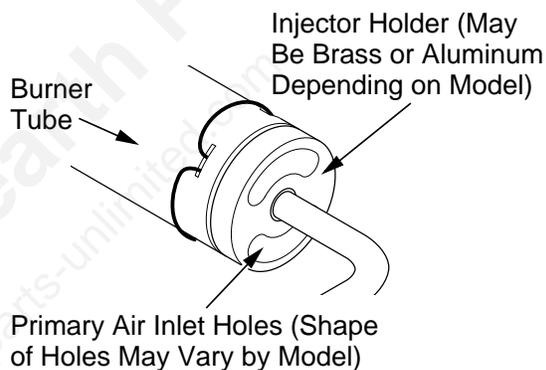

Figure 25 - Injector Holder On Outlet Burner Tube
2. Inspect burner, pilot, and primary air inlet holes on injector holder for dust and dirt (see Figure 25).